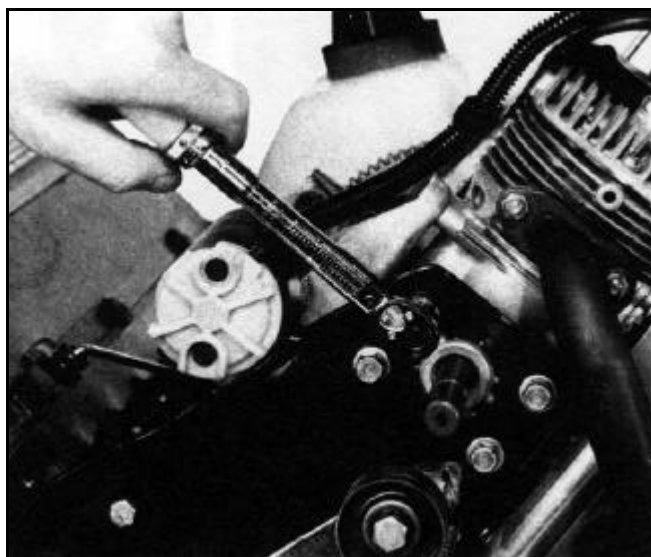

Figure 45 0217-028
- A. Torque the crankshaft engine mounting nut to 170 - 220 in-lbs. Then tighten the starter nut to 70 - 120 in-lbs (Figure 45).